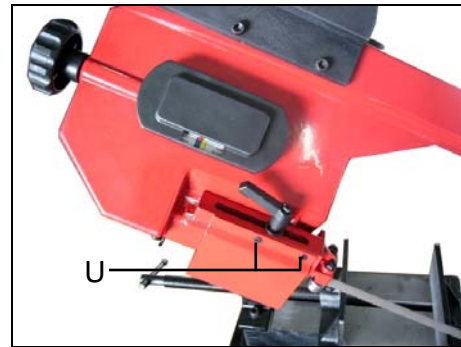
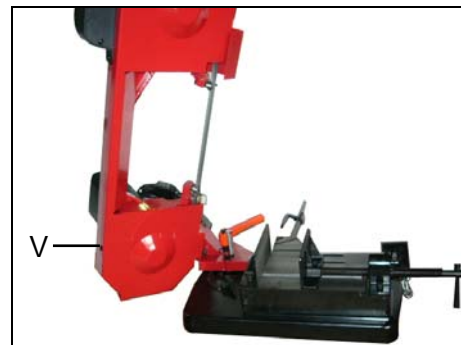

Fig. 18
Fig. 19
- Remove the blade guard by loosening two screws (U) in Fig.18 on the saw frame.
- Remove blade cover by loosening four screws (V) in Fig.19 on the saw frame.
- Replace blade cover (V) in Fig.19 and guards Fig.18. Replace the blade brush in proper position to touch the blade.